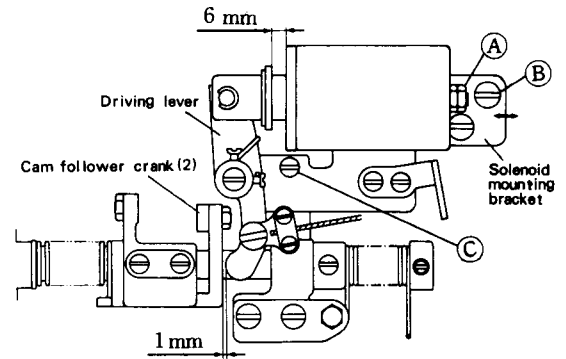
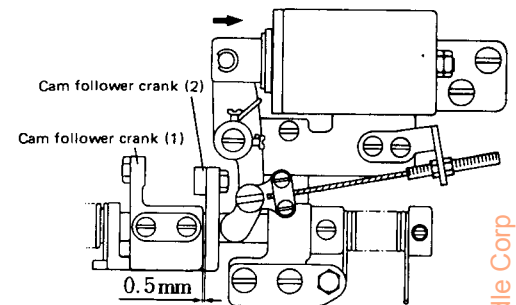

Fig. 8
Fig. 9
(2) Installation of unit
- ① Install the unit with the screws (B) and (C) shown in Fig. 8.
- ② Install the unit so that approximately 1 mm is provided between the driving lever and cam follower crank (2) with the stopper nut (A) in contact with the solenoid.
- ③ When the solenoid is energized under this condition, clearance of 0.5 mm is provided between the cam follower cranks (1) and (2) as shown in Fig. 9. This is the standard installation status. Make adjustment by moving the solenoid mounting bracket in the arrow direction in Fig. 8.